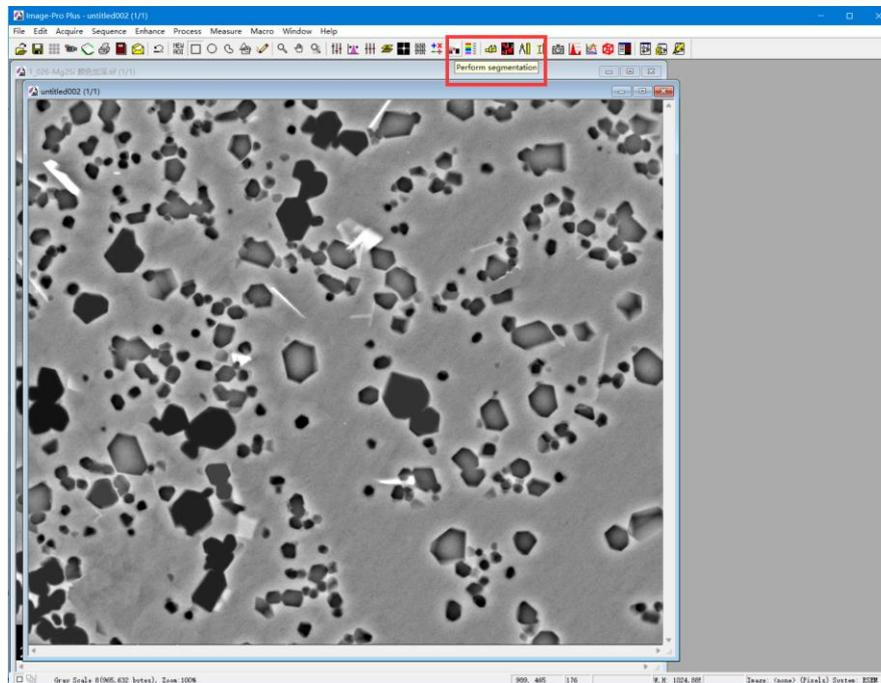
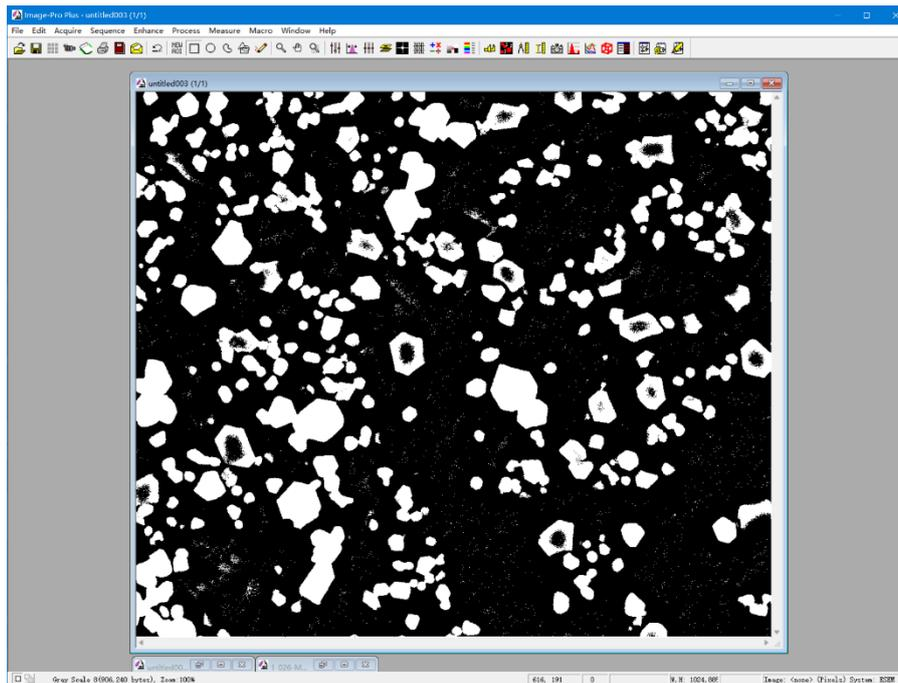

Figure S6. Using the “perform segmentation” function to convert images to black and white image.
Figure S7. The black and white image
6. Using the “perform segmentation” function, shown in Figure S6, to convert images to black and white image, as shown in Figure S7.
- Using the “Count and measure objects” function, shown in Figure S6, to measure the size of the Mg2Si phase.